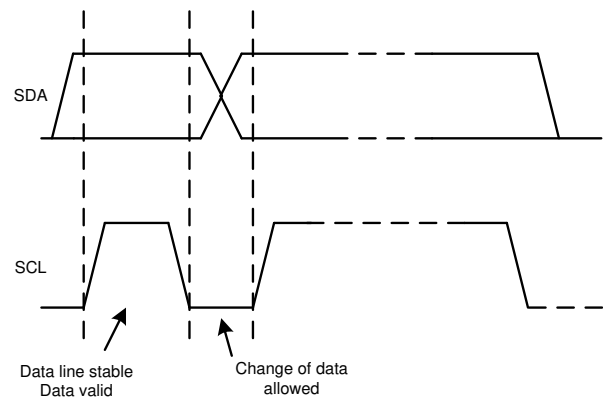

Figure 7-22. Bit Transfer on the I²C Bus
2. The controller then generates the SCL pulses, and transmits the 7-bit address and the read/write direction bit (R/\overline{W}) on the SDA line. During all transmissions, the controller makes sure that data are valid. Figure 7-22 shows that a valid data condition requires the SDA line to be stable during the entire high period of the clock pulse. All devices recognize the address sent by the controller and compare the address to the respective internal fixed address. Only the target device with a matching address generates an acknowledge by pulling the SDA line low during the entire high period of the 9th SCL cycle (see also Figure 7-20). When the controller detects this acknowledge, the communication link with a target has been established.